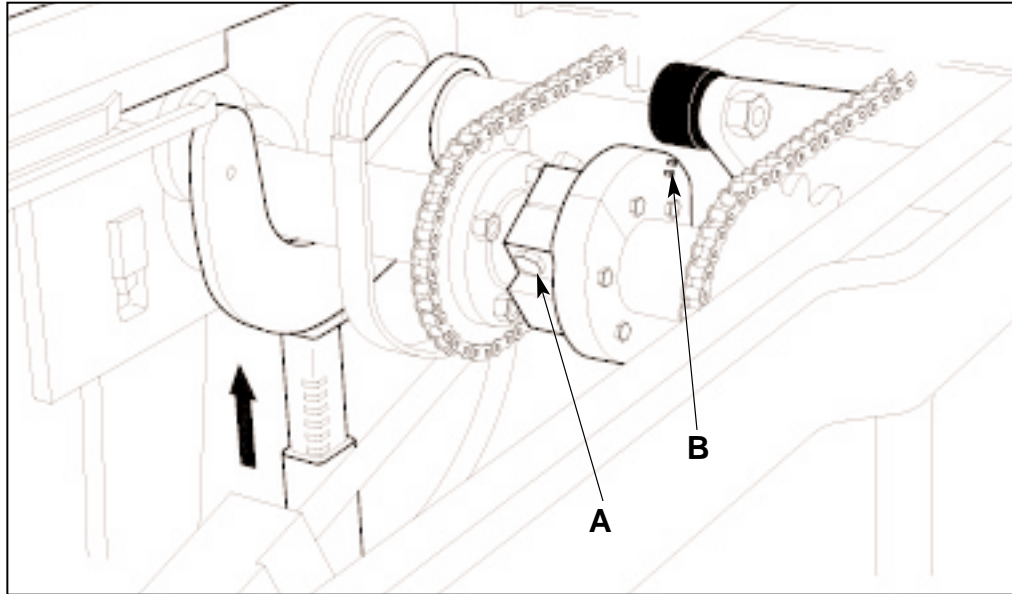

Figure 6.11 PALLET LOWERING CAM
- 6.2.7 Crawl under machine and loosen clamp bolts (A) for pallet lowering cam (see figure 6.11)
- 6.2.8 Align small pins or punch marks (B) on side of pallet lowering cam, with center of roller (see figure 6.11).